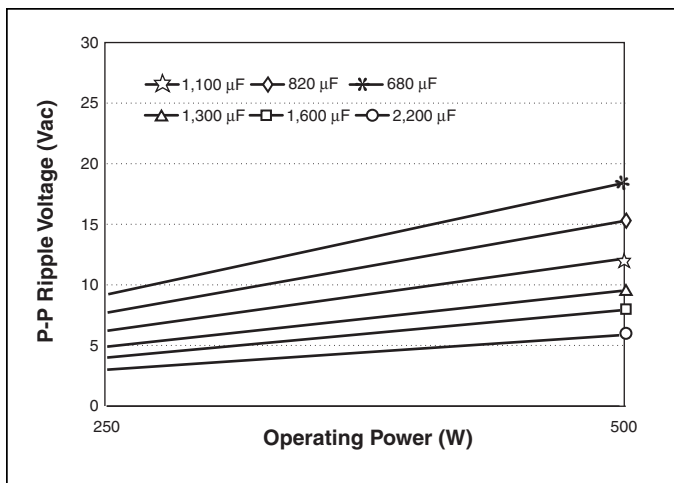

Figure 16 — Ripple voltage vs. operating power and bus capacitance, series combination of C1, C2 (see Figure 1a)
*Figure 16* is used to determine ripple voltage as a function of operating power and bus capacitance, and shows that the ripple voltage across the hold-up capacitors will be 12 Vp-p.